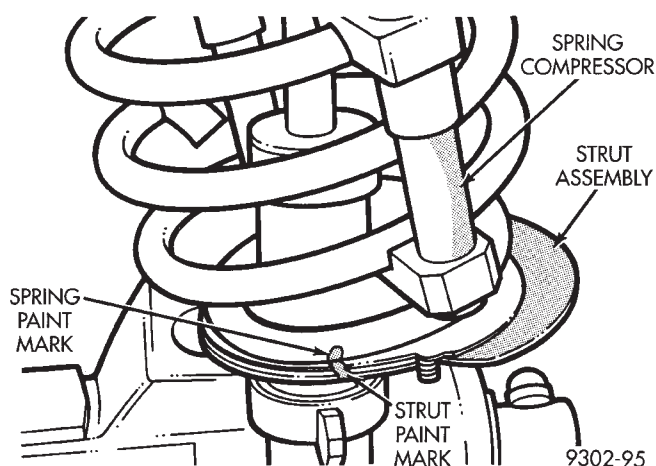

Fig. 7 Spring Installation On Strut Assembly
(2) Install compressed coil spring onto strut assembly aligning paint mark on spring with paint mark on strut assembly (Fig. 7).